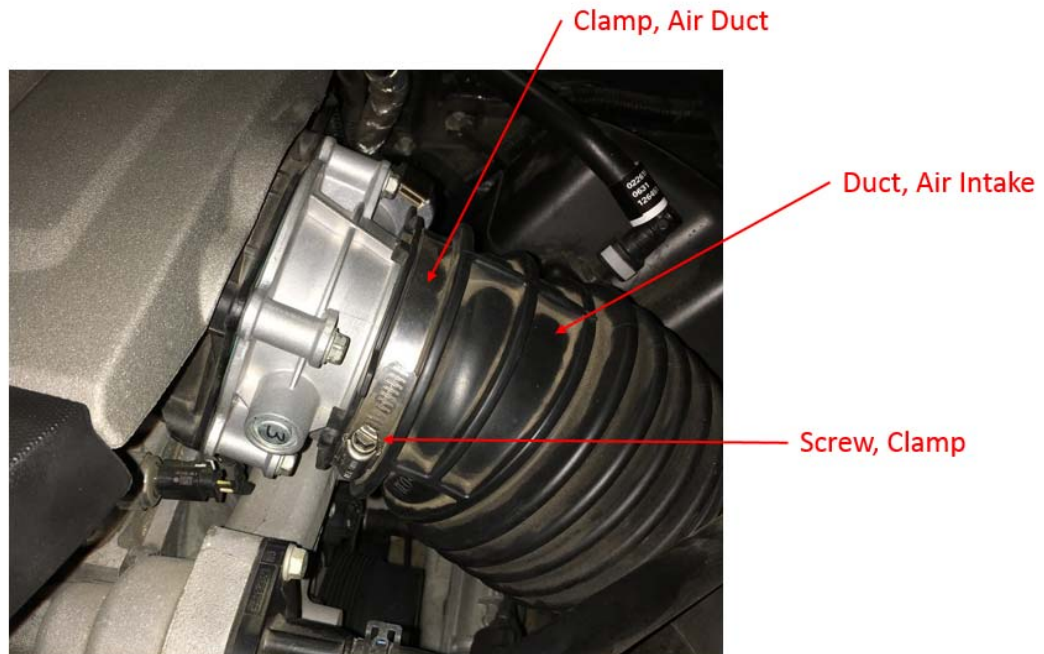

Figure 3. Throttle Body and mating components viewed from right (passenger) side.
- 3- Refer to figure 3. Loosen Duct Clamp screw and pull Intake Duct and Clamp away from Throttle Body.